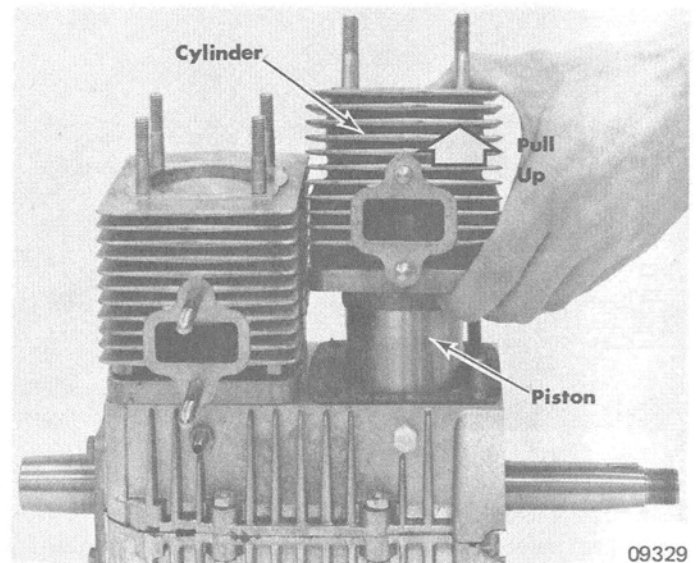

Figure 2. Removing Cylinder
8. Lift cylinders off crankcase and pistons. (Figure 2) Mark each cylinder to designate with which piston it is used.